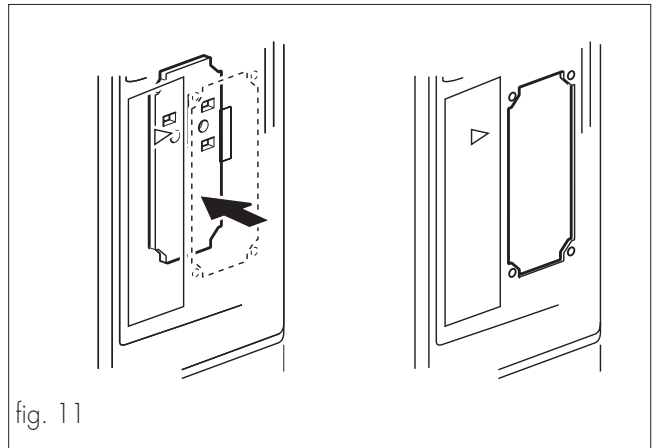

fig. 11
- Remove the token accepting device support (fig. 11).
- Drill a hole on the keypad panel (fig. 11).